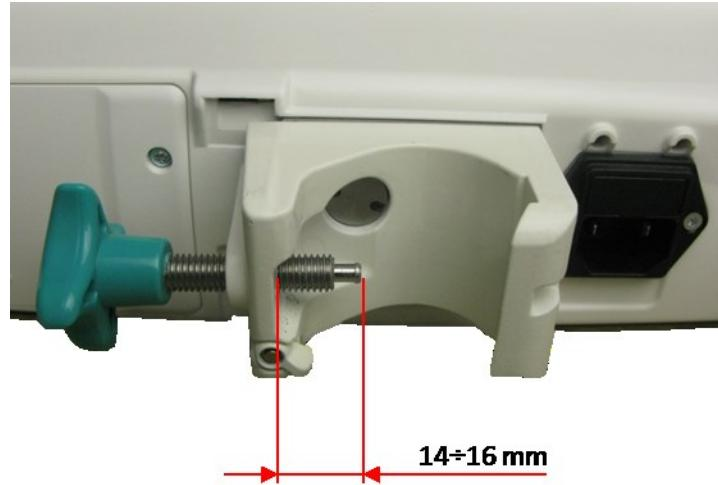

Fig. 72 Screwing the Pole clamp screw
1. Screw the **Pole clamp screw (1)** in a distance of 14÷16 mm in the **Rotatable pole clamp (3)** as shown in **Fig. 72**.